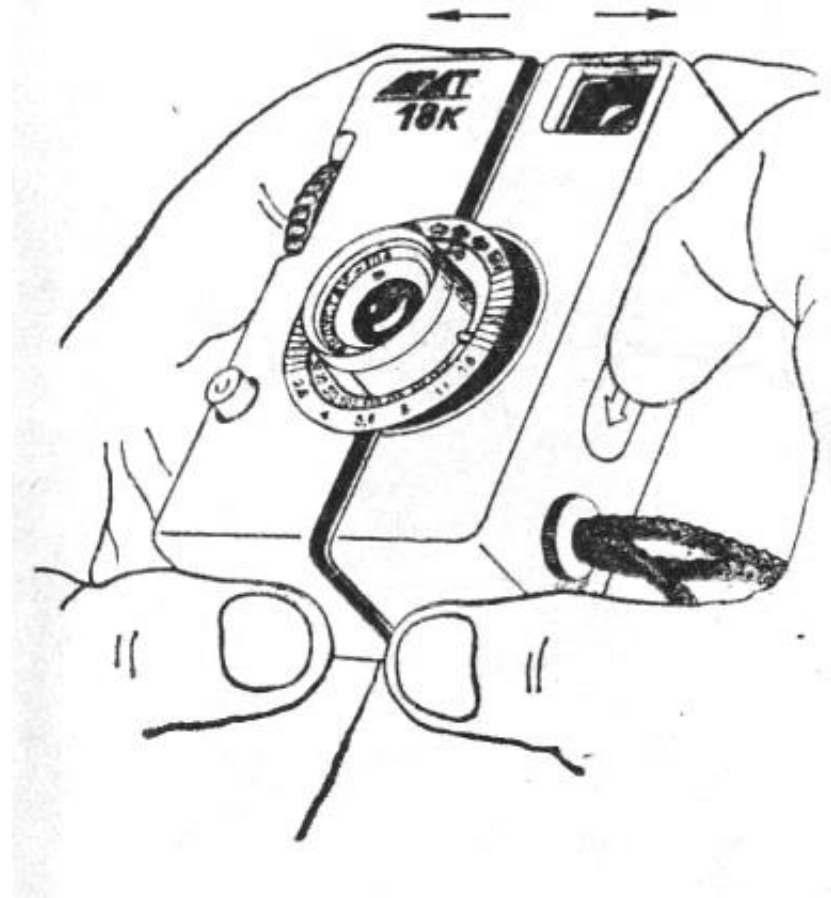

Figure 6
5.1.1. Remove the lens cover. Take the camera in your hands, as shown on figure 6.